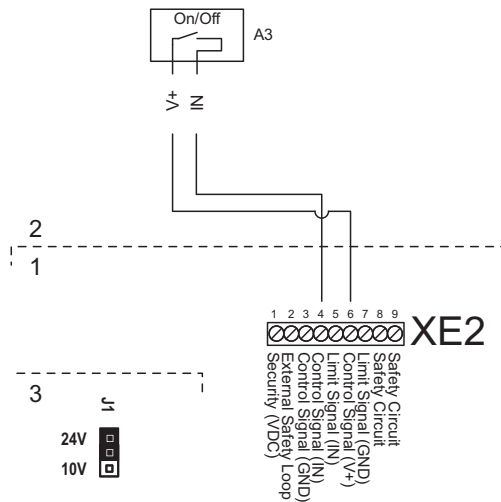

Figure 18 - On/Off Humidistat Connection
4. Connect the signal cables of the humidistat to terminals 4 (IN) and 6 (V+) of the control terminal block, XE2. Refer to Figure 18 - above.